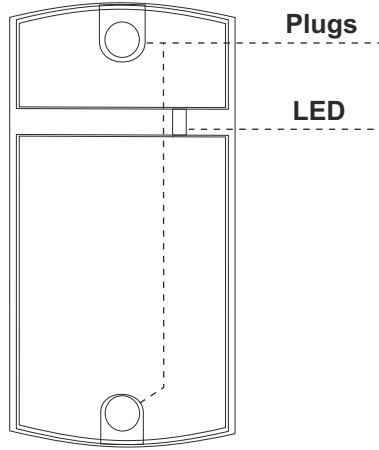

Figure. 2
- Close the reader holes with supplied plugs (Fig. 2)